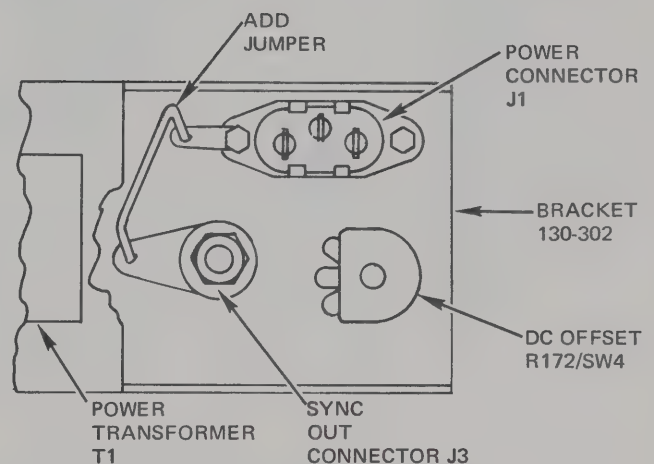

Figure 2-1. Common Ground Connection Diagram
3. Solder a jumper wire between the ground lugs (green wires) of the SYNC OUT connector and the power connector (Figure 2-1).